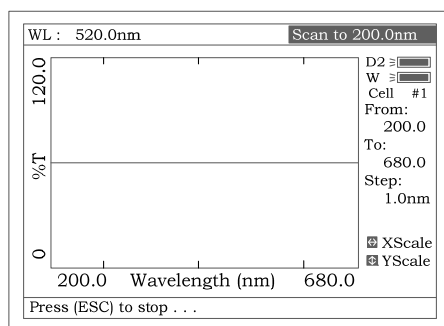

Fig 44
- Push the blank cuvette into the light path, press [0Abs/100%T] to scan the base line (Fig 44). Press the key [ESC/STOP] to stop scanning;